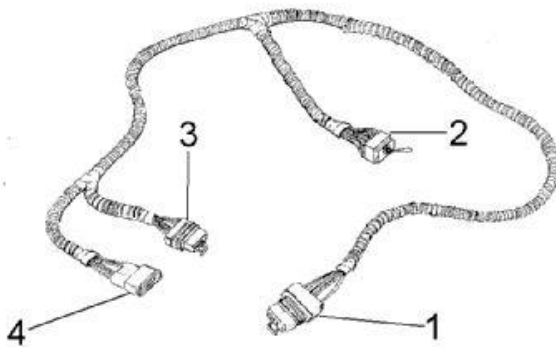

Figure 1. Throttle Position Harness, Switched Version
3. Connect the new throttle position harness connectors to the cab harness and the left side throttle pedal as shown in Figure 1 and Figure 2.
4. Connect the remaining harness connector to the right side throttle pedal as shown in Figure 1 and Figure 2.